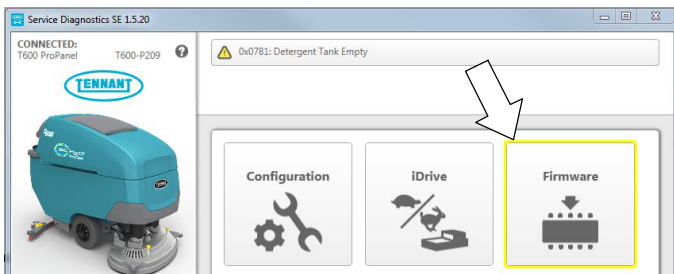

Fig. 16
3. Once connected, the home screen will appear (Figure 16). If firmware updates are required, the "Firmware" button will be highlighted in yellow as shown. Press the button to update the machine's firmware.